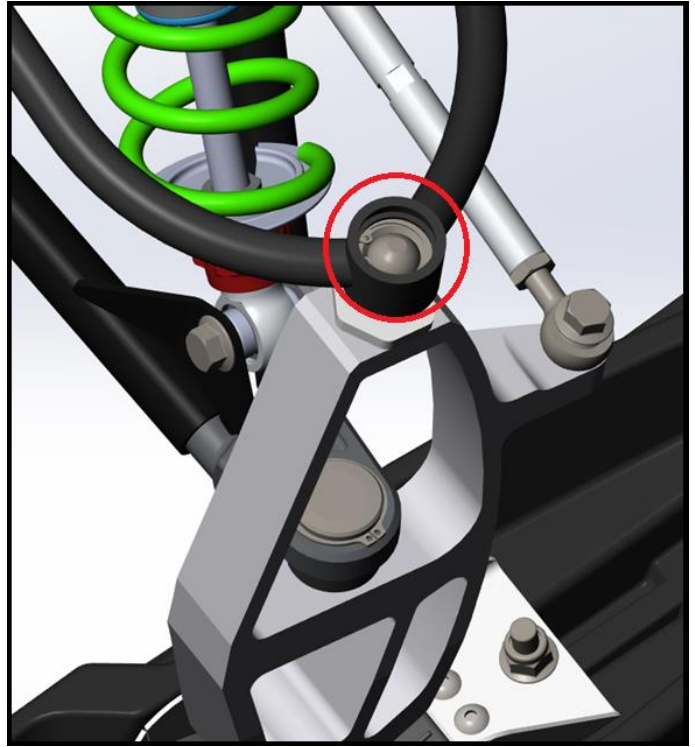

Fig. 46 -Grease opening (left side)
3. Apply grease to the upper spherical support in the open cavity (Fig. 46).